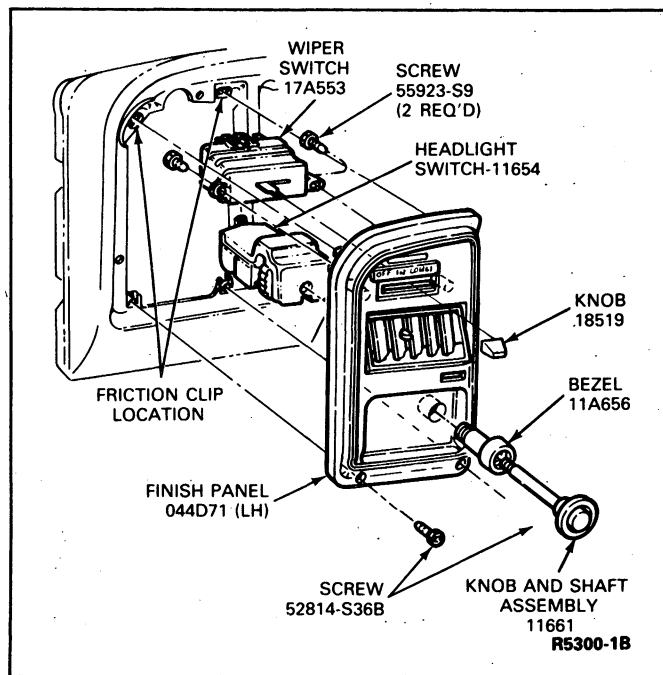

FIG. 1 Instrument Panel Installation LH Side—E-150-350
3. Remove two screws at bottom of LH finish panel and pull rearward to disengage friction cups (Fig. 1). Disconnect wiring connectors and remove panel.